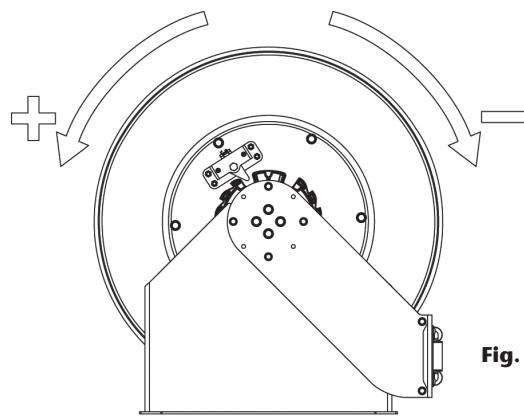

Fig. 5
- 6.** Apply the pre-tension to the power spring by turning the spool the number of turns indicated below, depending on the power spring version and the hose length (Fig. 5):
- 4.** Turn the spool to increase or decrease the power spring tension (Fig. 5).